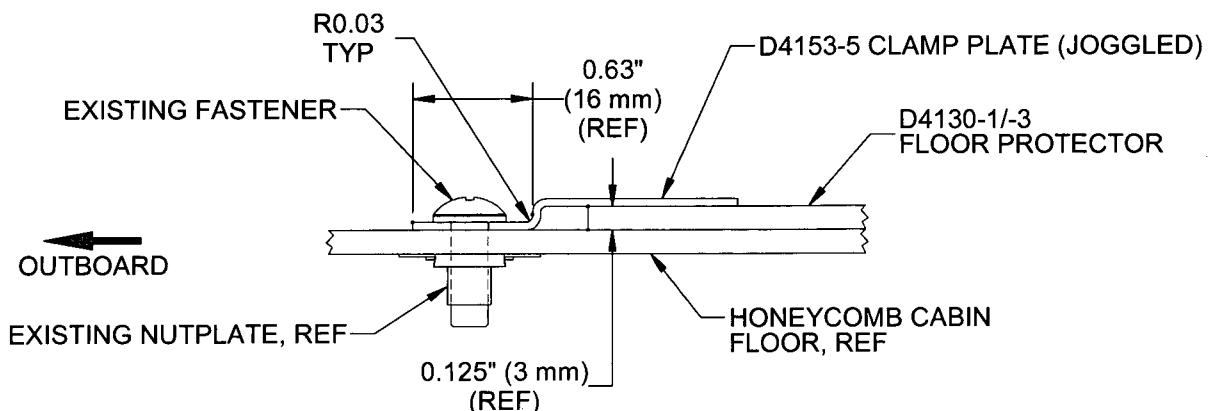

FIGURE 2 - D4153-5 CLAMP PLATE INSTALLATION (OPTION 2)
- 2.2.1 Joggle D4153-5 Clamp Plate as shown in Figure 2 of this Service Instruction.
- 2.2.3 Install D4153-5 Clamp Plates as shown in Figure 2 of this Service Instruction.